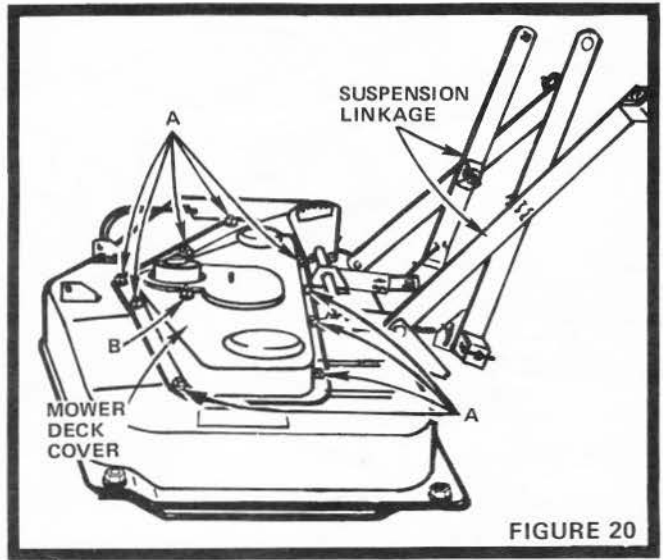

FIGURE 20
5. Move Suspension Linkage outward and swing to rear--both R.H. and L.H. sides (Fig. 20).
7. Remove Mower Deck Cover (Fig. 20). There are 9 Carriage Bolts, Flat Washers, Lockwashers and Hex Nuts (A), plus a Lockwasher and Hex Nut (B) holding Cover to Mower Housing.
17. Reassemble Mower Deck Cover (Fig. 20). Make sure bolt shoulders are seated in Mower Housing bolt holes. Tighten Nuts securely.